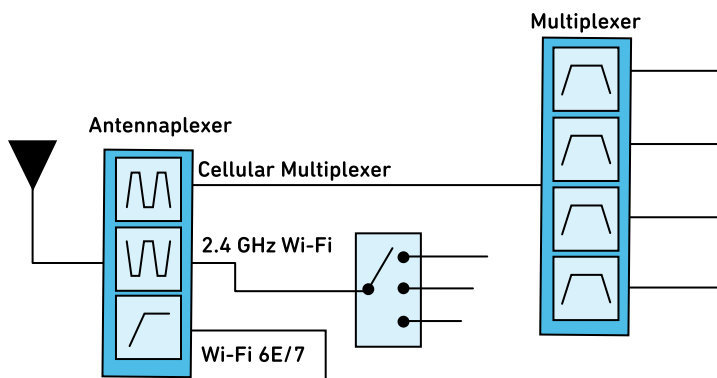
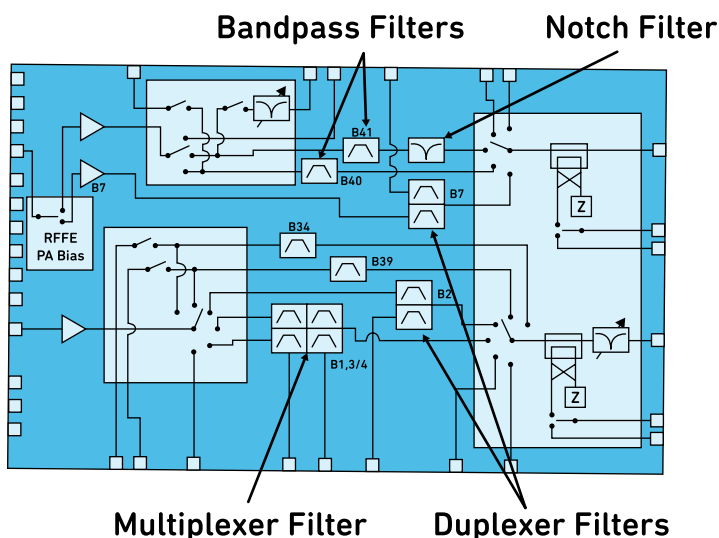
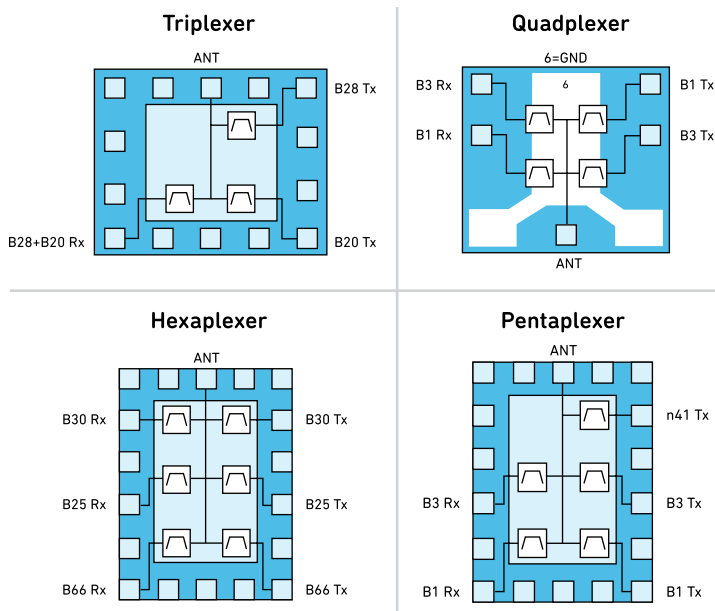

FIGURE 2-7: An antennamultiplexer and multiplexer in a block diagram.
FIGURE 3-1: Bandpass filters, duplexers, notch, and multiplexer in functional block diagram.
FIGURE 3-2: Types of multiplexer filters.
What's the difference between these more complex types of filter technologies? Figure 2-7 shows the difference in a simple way. The antennaplexer operates near the antenna to help efficiently and effectively steer the proper signal deeper into the device. Antennaplexers reduce the need for more discrete components, as well as lowering the number of antennas used in the system. For example, an antennaplexer might combine GPS, Wi-Fi, and cellular bands, enabling one antenna to support all three RF pathways.
A multiplexer is a group of radio frequency (RF) filters that are combined in a way that they don't load each other and achieve high levels of isolation between their outputs (refer to Figure 2-7 in Chapter 2). Multiplexers are used within the RF front end close to the power amplifier (PA) and play an important role in carrier aggregation (CA), while antennaplexers are used after the radio frequency front end to simplify routing to the antenna. Multiplexer filters can include several types of filters all within one package. Figure 3-1 provides a high-level pictorial of several types of filters embedded inside one complex module design. These pictured individual duplexers, bandpass filters, and notch filters can also be part of a group of multiplexers called *quadplexers*, *pentaplexers*, and *hexaplexers*., as shown in Figure 3-2.
Today's wireless systems and devices must support more functionality, so they need ever smaller components. Integrating multiple non-overlapping filter bands into a multiplexer helps reduce component count and the size of the radio frequency front end (RFFE). Figure 3-2 shows some of the types of multiplexer designs to help reduce overall RFFE component count to meet new device size reductions. Multiplexers enable system designers to optimize, miniaturize, and simplify the overall design to meet system requirements.
Take a look back at Figure 2-7 in Chapter 2, which shows the differences between antennaplexer and a multiplexer. Notice that the antennaplexer is used near the antenna to reduce complexity, whereas the multiplexer is used closer to the radio frequency front end (RFFE), near the power amplifier (PA).